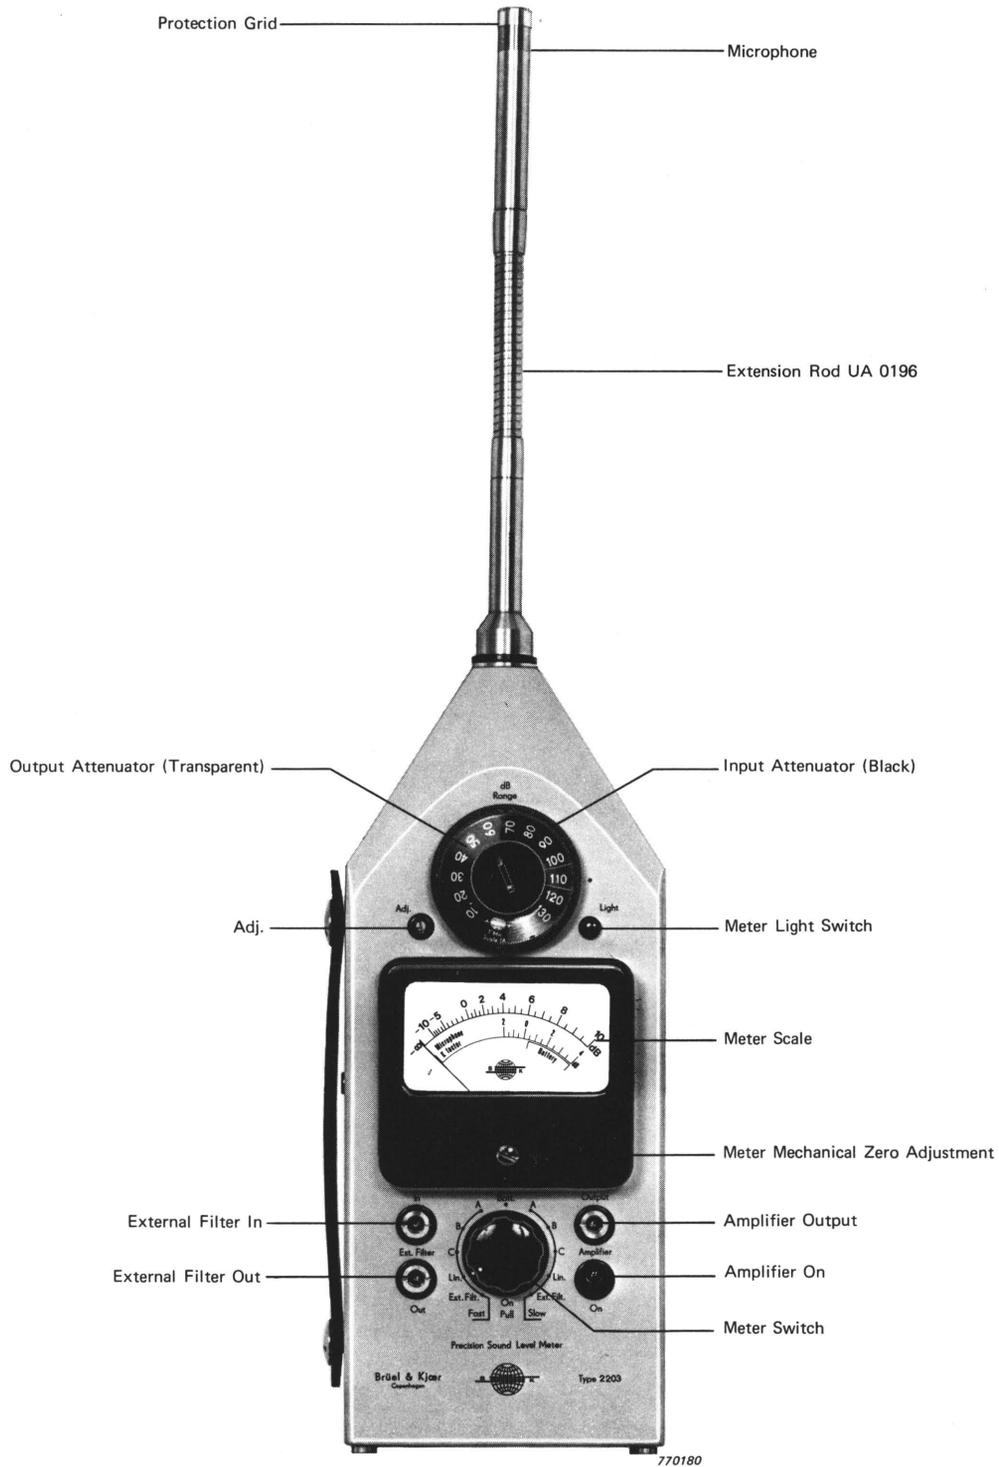

Fig.2.1. Front view of 2203
2. Attach the microphone, extension rods, or cables and adaptors to be used by screwing them together finger tight. (See Fig.8 of Chapter 1 for the selection of accessories, and Fig.2.1 for a view of the standard assembly.) These must be included in the calibration since they all affect the sensitivity.
In the example, for use with the set-up shown in Fig.2.1,  $K_0$  is found on the front of the calibration chart (+ 0,5 dB). From this is subtracted the input gain of —2,1 dB indicated on the back of the calibration chart. This gives a total K-factor of + 2,6 dB, to which the 2203 should then be calibrated.